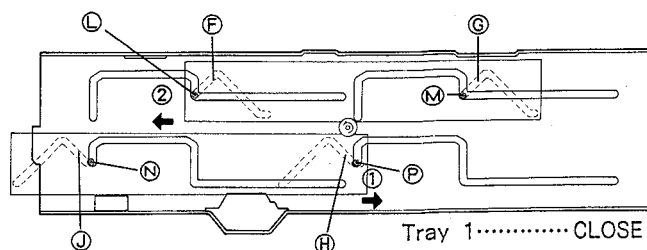
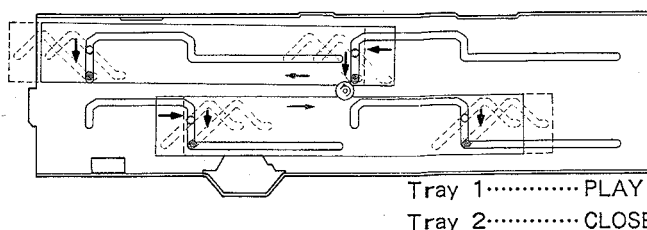

Fig. 10-7.
Fig. 10-10.
Fig. 10-7 through Fig. 10-10 show movement of tray 2 from the play position to the close position and tray 1 from the close position to the play position by the linear movement of rack U and rack L.
1. From the state shown in Fig. 10-7, racks U and L move in the directions of arrows ② and ① respectively.
4. When points ⑫, ⑭, ⑯, and ⑱ are passed, the rack movement is dropping along the inclined section of the grooves as shown in Fig. 10-10.